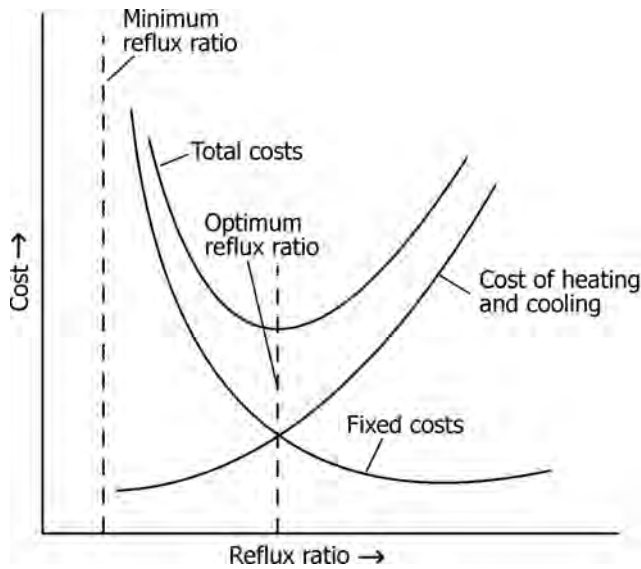

FIGURE 17.16 Optimum reflux ratio.
- Figure 17.16 illustrates the various costs involved in finding optimum reflux ratio.